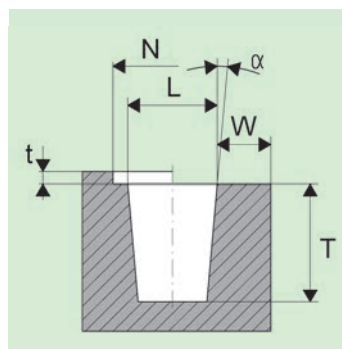

Fig. 24
Hole diameter (L, fig. 24) and wall thicknesses (W) are dependent on the material used for the formed part, the insertion method and the requirements imposed on pull-out resistance / torque safety. Please inquire or ascertain by testing. For guideline values, see the Works Standard sheets.
(fig. 24).